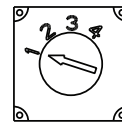

Figure 4: Voltage Selection Switch (Located on bottom of regulator)
1. Regulator has four selectable set points. Before installing regulator, verify appropriate switch setting for your application and change if necessary. See Figure 4 and Table 1 for fixed voltage set point options when used without battery sensor/harness. See Table 2 for battery chemistry-based charge profiles when used with compatible CEN battery sensor/harness. **Contact battery manufacturer or vehicle OEM for charging set point recommendations for your environment or application if necessary.**